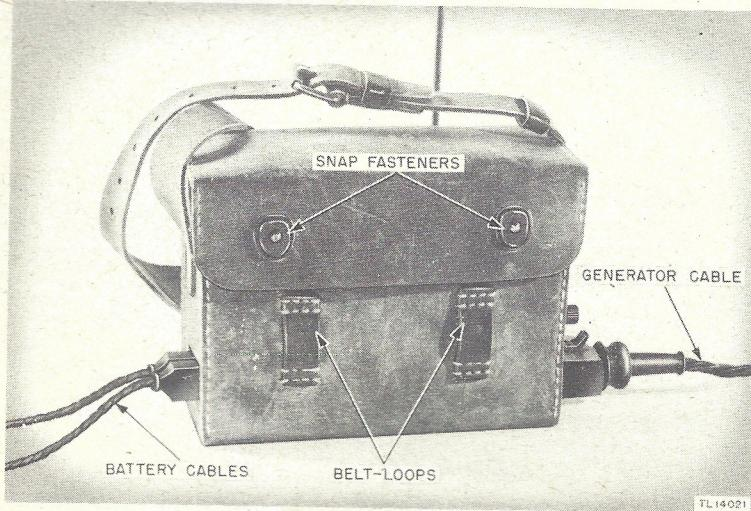
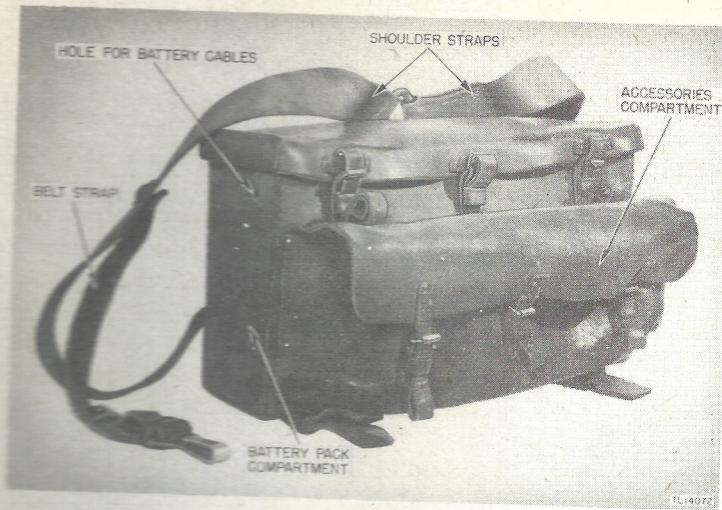

Figure 2. Japanese Radio Set Model 94 Mark 6, front view, in carrying case.
Figure 10. Carrying case for Japanese battery pack and accessories.
is used for both tone and voice communication by ground troops in forward areas, and can be used in nets with American amplitude-modulated radio sets within the frequency and distance range. The set is a lightweight and compact unit employing one tube which is incorporated into either the transmitting or receiving circuit as required. A metal case houses the transceiver unit, and a rubberized fabric or leather carrying case with strap (fig. 2) is provided for transporting the set during
cables are carried in the accessories compartment of the battery pack carrying case (fig. 10). As a means of further identifying the various Japanese set control designations, three sets of identifying name tabs are provided which may be cut out and affixed to any Japanese set being used. These name tabs are shown in figures 27, 28, 29, and 29a. Views of the set with name tabs are shown in figures 15, 25, and 26.
a lightweight metal case. Fiber insulation covers the interior of the case where splices between batteries and the cables are made. The battery pack is fitted into a leather carrying case (fig. 10) designed for strapping on the operator's back. The plate and filament voltages are cored to the set with separate two-wire cables. The cables terminate in two-connector sockets which are plugged into the battery cable plug in the set, side by side. Refer to figure 2. The pin arrangement of the battery cable plug prevents incorrect insertion of the two-connector sockets. See paragraph 3 for detailed information on the substitution of American type batteries for Japanese batteries.
**a. General.** The set is primarily intended to be used as a portable set operated by two men. The transceiver unit and battery pack are slung to the operator by carrying straps, and the generator is carried by the second man as shown in the frontispiece. When a battery pack is used to provide the power supply, one man can carry and operate the entire set (fig. 4). If American type batteries are used to make up the battery pack, it may be necessary to discard the Japanese carrying case because of size limitations. If so, carry the battery pack in a musette bag or similar type of case. Two leather belt-loops on the front of the transceiver unit carrying case (fig. 2) enable the operator to strap the set close to his body and prevent excessive movement during portable operation. For operation of the set as a fixed installation, the transceiver unit is placed on a firm supporting structure and the hand generator, if used, is mounted on a supporting stand by means of the base plates.